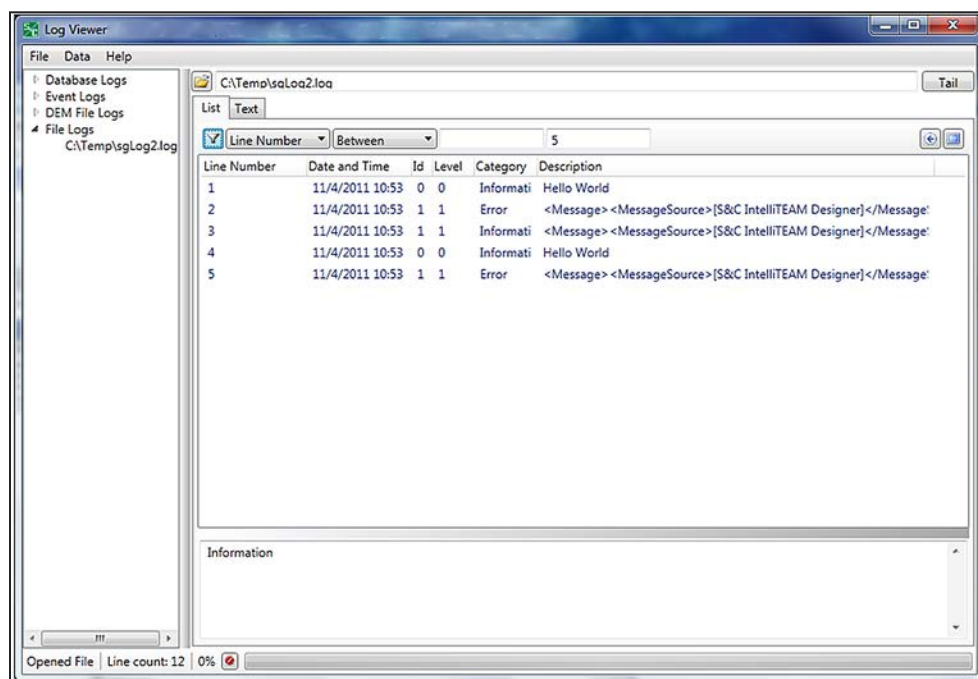

Figure 135. Data filtered to end at Line Number 5.
STEP 4. The line number can be filtered to end at #5. See Figure 135.